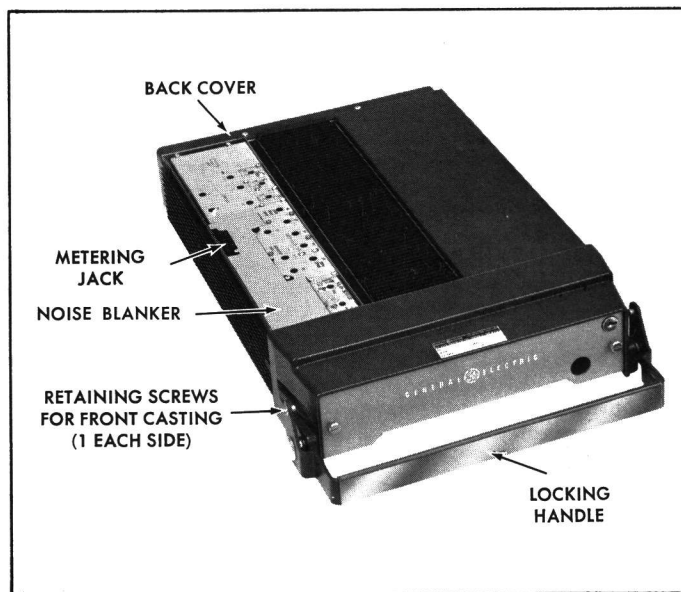

Figure 4 - Removing Top Cover
1. Loosen the two Phillips-head retaining screws in front casting (see Figure 4), and pull casting away from system frame.